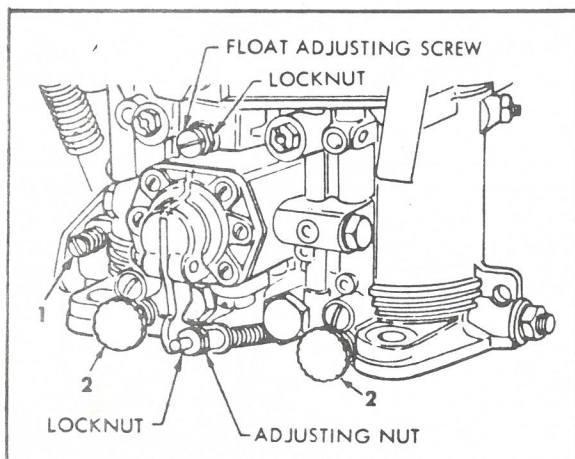

Figure 1.
a. **40 PII** No float adjustment is required. The needle valve assembly (24) is a precision part and when installed with the correct gasket (25) will restore the float level to correct dimensions. Tighten the needle valve (24) firmly, but do not over-tighten.
a. **40 PII-4** (See figures 1 and 2.) The float (26) is raised or lowered to provide proper fuel level in the carburetor body (48) by adjustment of the float adjusting screw (fig. 1) after carburetor is installed on engine.
- (2). Loosen the locknut on the float adjusting screw (fig. 1) and rotate the screw until fuel just begins to drip out of the bottom of sight opening (fig. 2).
- (3). Tighten the locknut on adjusting screw and install fuel level checking plug.
b. Pump. (See figure 1.) The pump is set correctly at the factory and, if not disturbed, will not change in service except for minor linkage wear which might occur after long usage.
After installing the carburetor on an engine which is in a good state of "tune-up", accelerate the engine fully and notice if full acceleration is evident. If a lean condition is apparent, loosen the locknut (fig. 1) and rotate the adjusting nut clockwise one-half revolution at a time until acceleration appears to be normal. The pump should deliver only enough fuel to provide maximum acceleration. Any additional delivery would simply waste fuel.
c. Idle. (See figure 1.)
- (1). Adjust the slow-running adjustment screw (1) to crack throttle valves slightly, so that engine will start and keep running.
- (2). Install carburetor on engine; start and warm up the engine.
- (3). Rotate volume control screws (2) to provide smooth engine operation.
- (4). Rotate the slow-running screw (1) until engine idles between 500 and 600 rpm. (Check factory requirements for special car models or unusual operating conditions.)
- (5). Open the throttle quickly and allow it to "snap" shut while watching the engine response. If engine "rolls" or "falters", readjust both the slow-running screw (1) and volume control screws (2) until engine idles at speed specified and recovers normally after "snapping" the throttle.